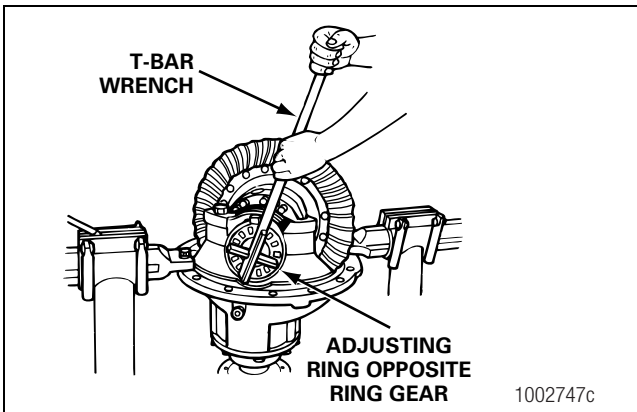

Figure 3.43
4. Use a T-bar wrench or equivalent tool to loosen the adjusting rings. Do not remove the adjusting rings. If necessary, loosen, but do not remove, the capscrews on the bearing caps to move the adjusting rings. Figure 3.43.